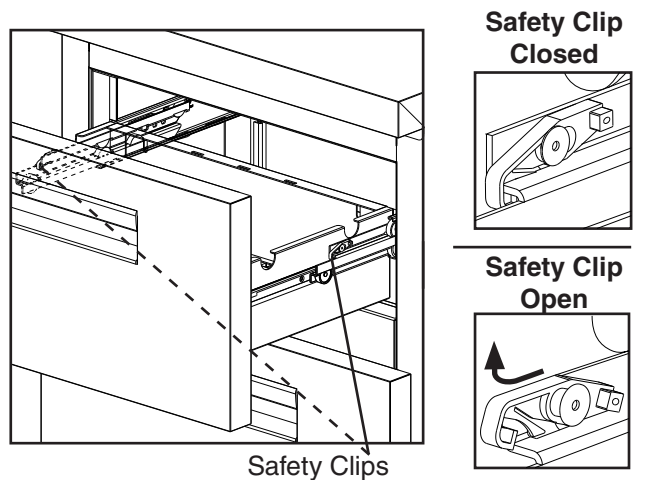

Fig. 38
- **To remove a drawer:** Remove all items from the drawer. Pull the drawer out to its fully extended position. Open the safety clips (one on each side) by sliding them forward, then rotating them up. See Fig. 38. Lift up on the handle slightly, then pull to disengage the drawer. Be sure to support the rear and front of the drawer while removing it.